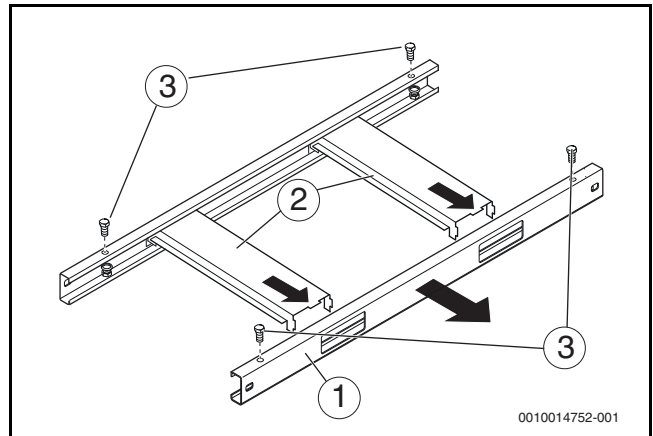

Fig. 7 Disassemble the base frame
The transport height can be reduced by removing the base frame rails (→ Figure 7, [1], page 12) with the cross beams.
- ▶ Undo screws (→ Figure 7, [3], page 12).